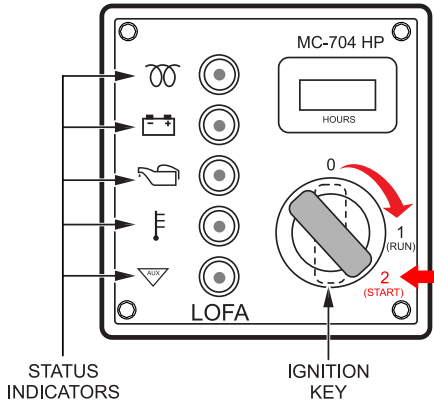

Figure 13. Ignition Switch Position 2 (Start)
2. If starting the engine in **cold weather conditions** pre-heating of the glow plugs will be required. Insert the ignition key (Figure 13) into the **starter switch** and turn the key clockwise to position 2 (**START**).
6. Make sure the status indicator LEDs on the control panel are **OFF** (Figure 13). If the charge indicator LED remains lit after the engine has started, increase engine speed until the LED turns off.